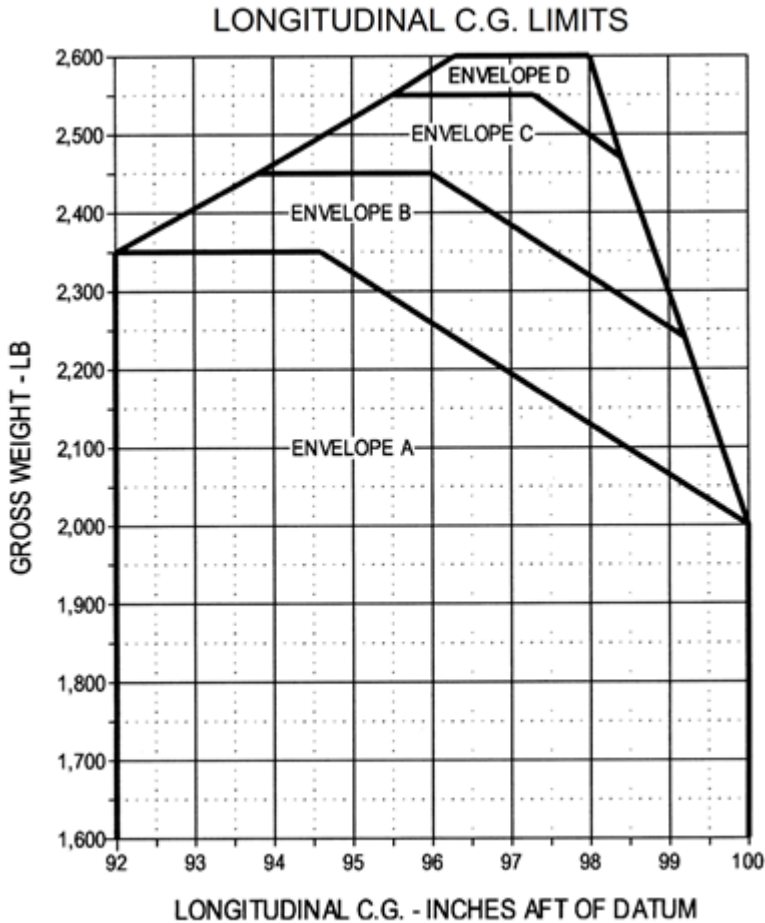

Figure 6-1. Longitudinal CG Envelopes
The solid V_{NE} /altitude curves shown in Figure 5-1 apply only to operation with the c.g. within the appropriate areas shown in Figure 6-1.
Use Figure 6-1 to determine actual location of c.g.
- b. Longitudinal c.g. range variable with gross weight from 92.0 inches to 100.0 inches (reference Figure 6-1).
(3) Maximum gross weight is 2600 lb (reference Figure 6-1).